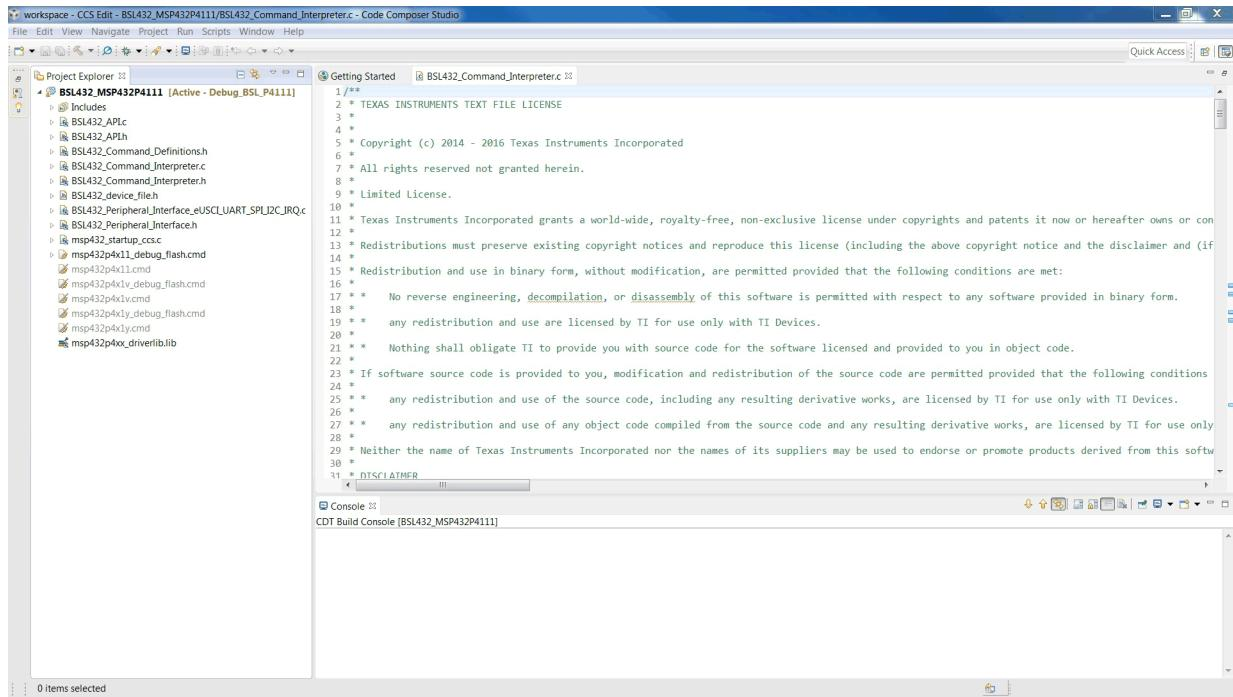

Figure 7. Project Imported
6. Click OK to start the import to the workspace (see Figure 7).